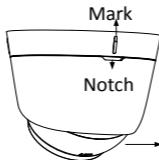

Figure 2. 19 Disassemble the Camera
1. Disassemble the turret camera by rotating the camera to align the notch to one of the marks, as shown in Figure 2. 19.